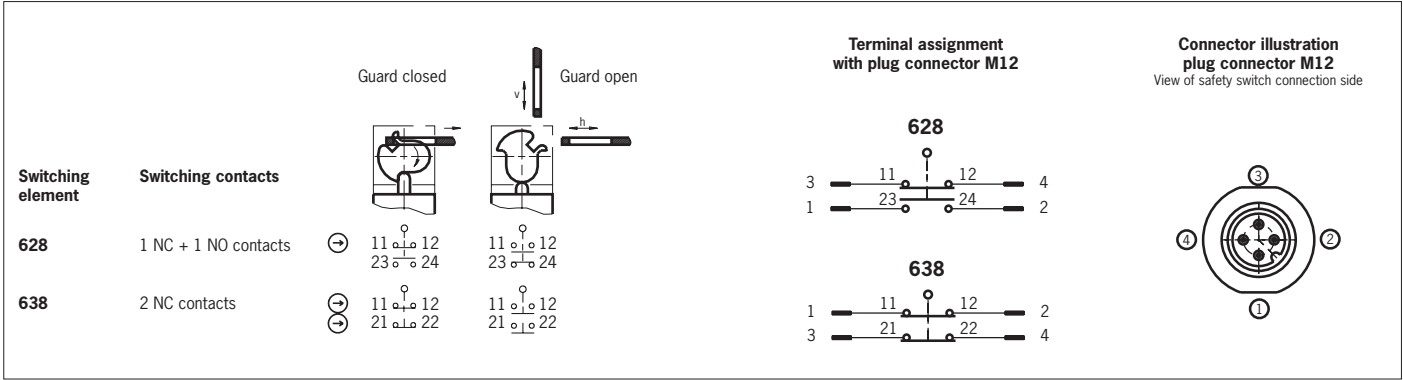

Fig. 4: Switching elements and switching functions
3. Connect and tighten terminals with 0.5 Nm (for terminal assignment, see Fig. 4).